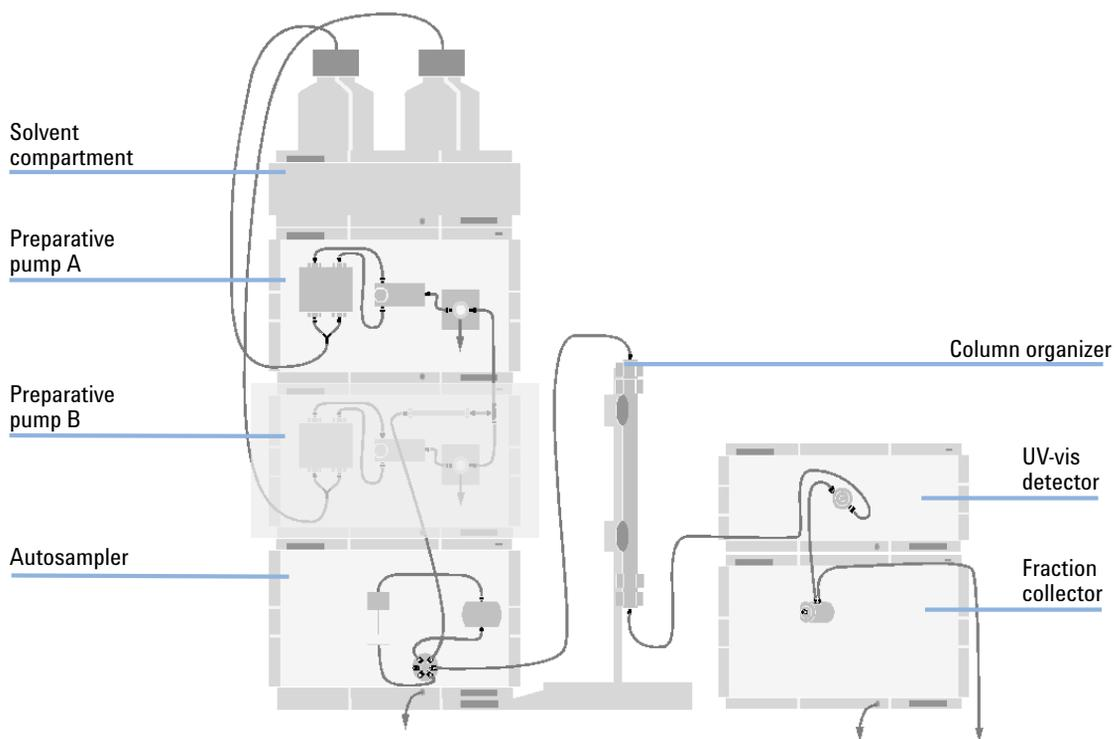
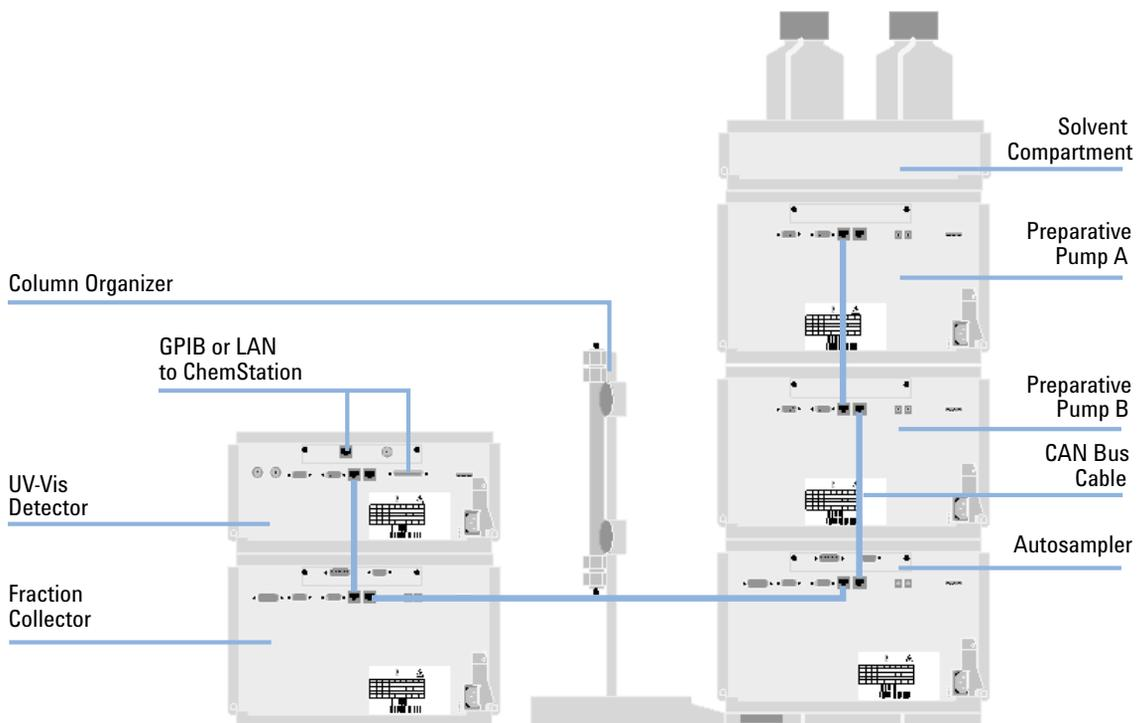

Figure 5 Recommended Stack Configuration -Preparative System (Front View)
Figure 6 Recommended Stack Configuration - Preparative System (Rear View)
- Figure 5 on page 34 and Figure 6 on page 35 show the configuration recommended for the pump in a UV based system.
- 1 Place the individual modules in a stack configuration as shown in Figure 5 on page 34.
- 4 Connect the CAN cable to the CAN connector of the next module, see Figure 6 on page 35.